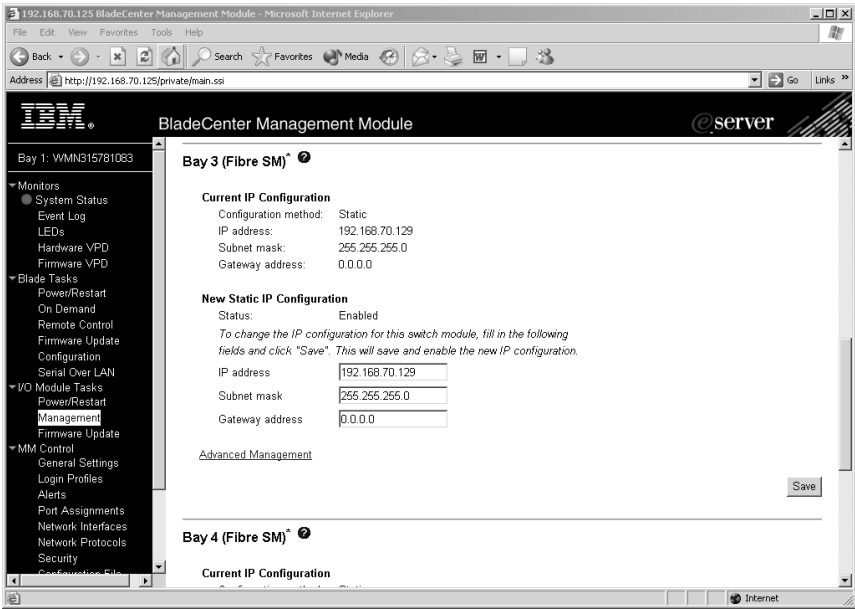

Figure 6. I/O Module Management window showing I/O-module 3 example
5. Click the link for either I/O-Module 3 or I/O-Module 4. A window similar to the one in Figure 6 opens.